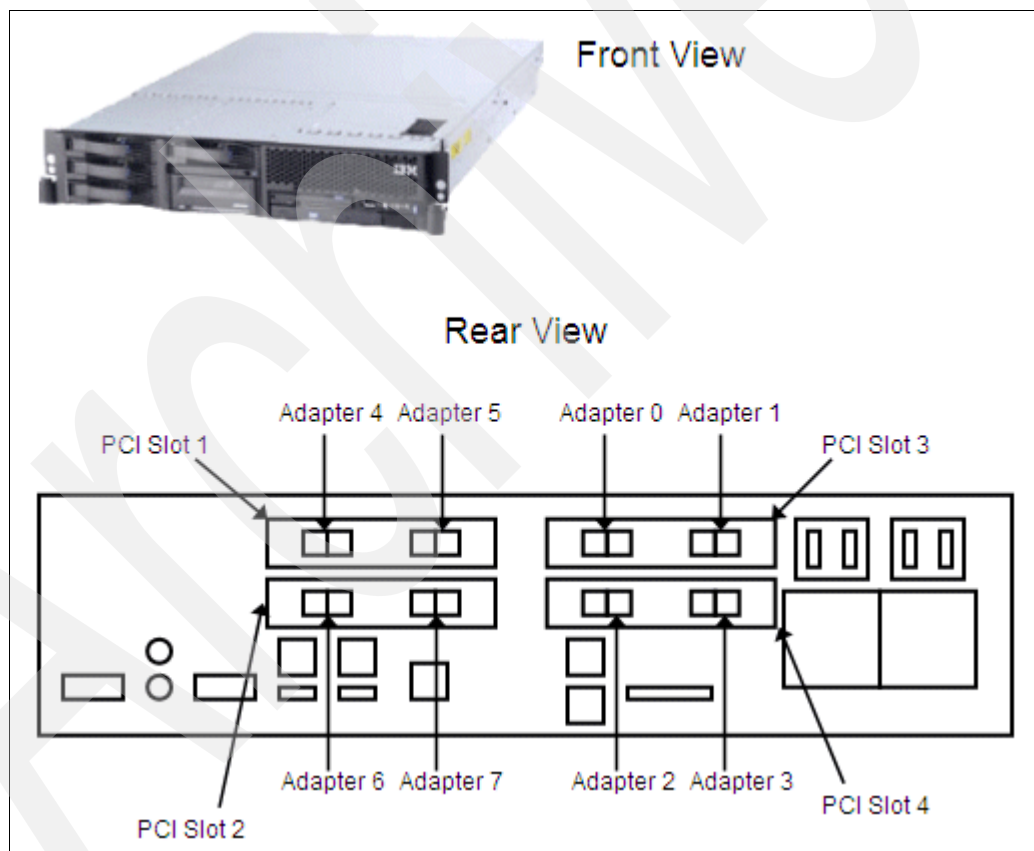
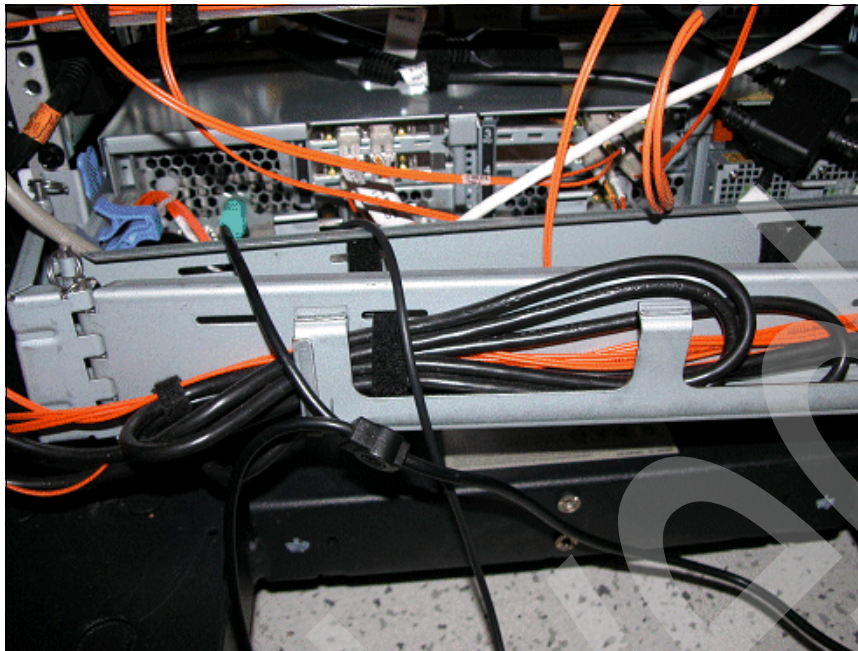

Figure 2-2 Virtualization Engine CV5
Figure 2-3 3954 Model CV5: Rear view in the lab in Rochester
TS7510 Virtualization Engine (3954 Model CV5) is a member of the xSeries family of servers. The Peripheral Component Interconnect (PCI) slots 1 through 4, shown in Figure 2-2, contain the dual ported QLogic (QLA2342) Fibre Channel adapters with Lucent Connectors (LC). The 3954 Model CV5 is a modified xSeries 346, 8840-A5U, with the following features:
The TS7510 Virtualization Engine 3954 Model CV5 is shown in Figure 2-2. A rear view of the 3954 Model CV5 installed in the IBM lab in Rochester is shown in Figure 2-3.